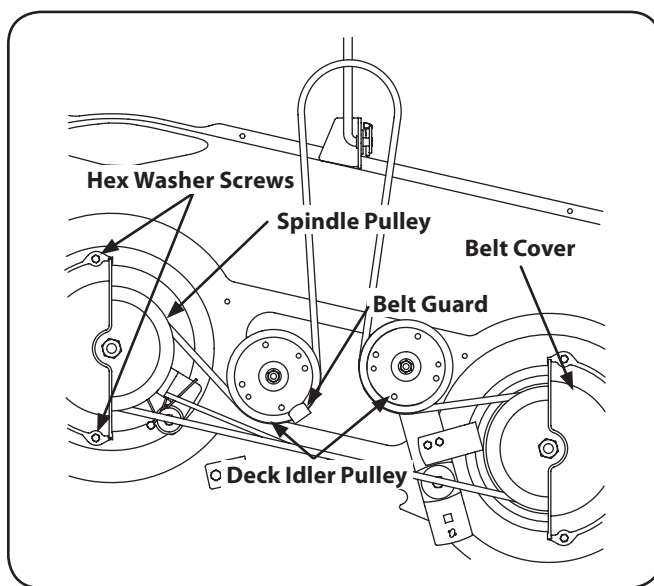

Figure 7-6
- Remove the belt covers by removing the hex washer screws that fasten them to the deck. See Figure 7-6.
4. Carefully remove the deck belt from around the two spindle pulleys and the two deck idler pulleys. See Figure 7-6.